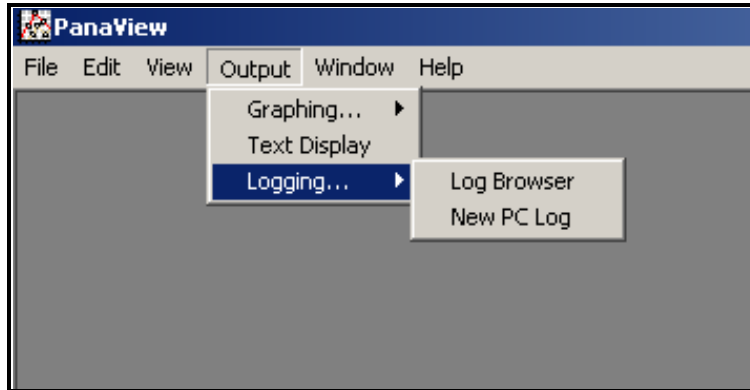

Figure 5-1: Log Browser in the Logging Option
1. From PanaView, click on the *Logging* option in the *Output* menu. Then click on the *Log Browser* option, as shown in Figure 5-1 below.